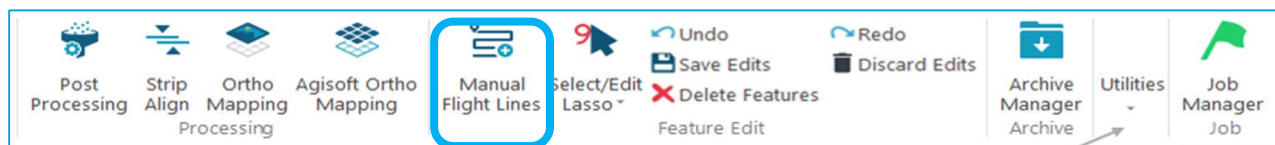

Figure 21 - Create Flight Lines from Selected Trajectory Points
- d) Select **Create Flight Lines from Selected Trajectory Points**  on the Sensor tab (Figure 21) and a new flight line should be created.